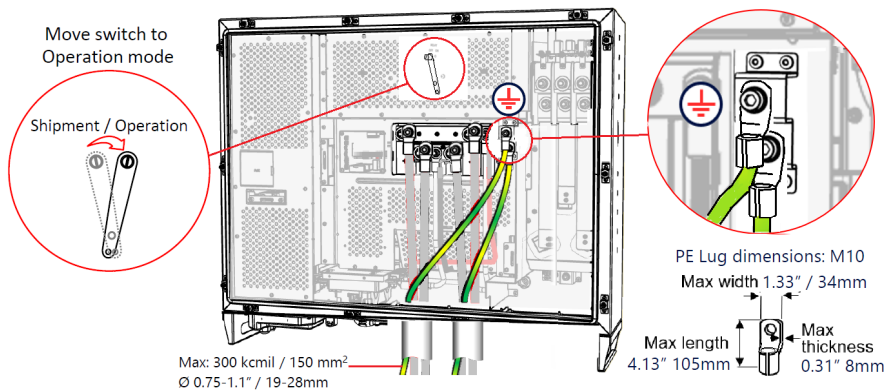

Figure 25: Unlocking the inverter and Connecting PE (Ground)
1. To unlock the inverter and enable power production, move the lock from SHIPMENT to OPERATION (see *Figure 25*).